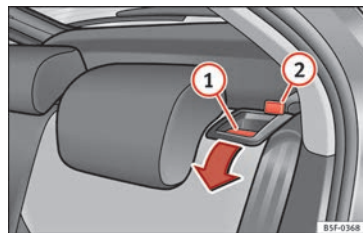

Fig. 154 Backrest release lever.
- Press the release lever »» Fig. 154 ① in the direction of the arrow.
- Raise the backrest until it engages in its upright position »» ⚠. The red marking on the tab »» Fig. 154 ② should no longer be visible when the backrest is properly secured.